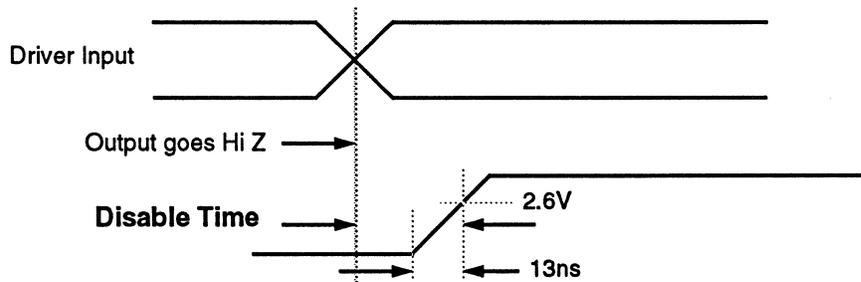

Figure 53: Disable Times Specification
- (1) MCLK timings measured between clock edges at 50% of Vdd.
- (2) The timings of these buses are measured to TTL levels.
- (3) Tabth1 is a requirement for ARM610. To ensure compatibility with future processors, designs should meet Tabth2. Tabth2 is not tested on ARM610.
- (4) See Figure 53: Disable Times Specification.
- (5) See 13.2.2 Tald Measurement.